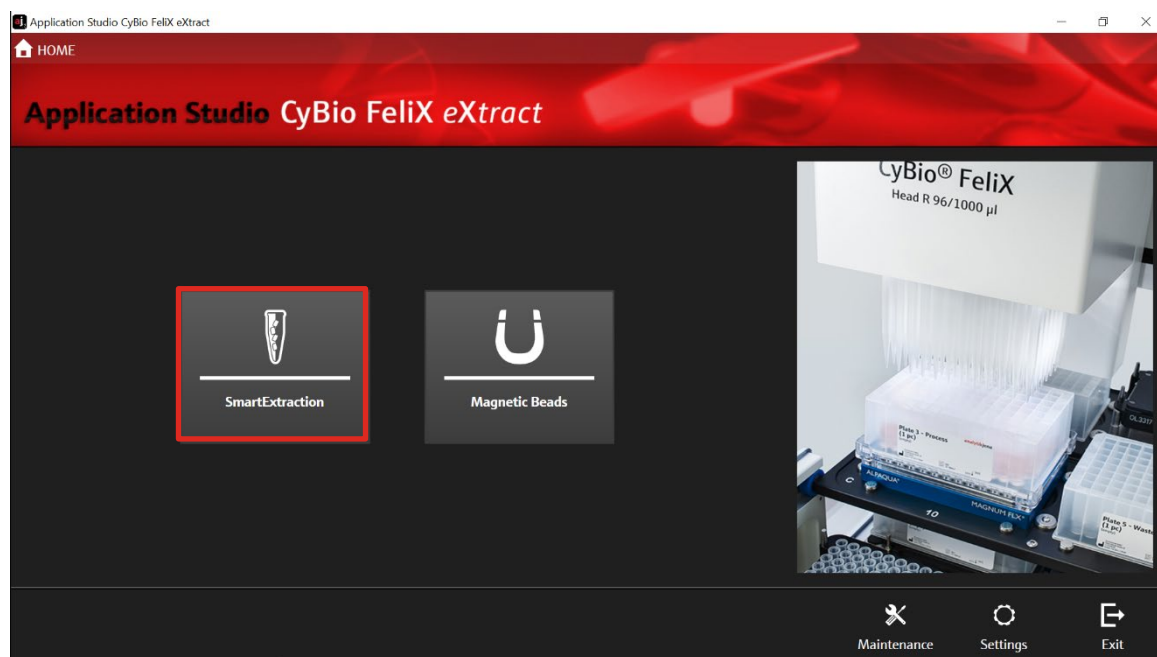

Figure 31: Homescreen of the AppStudio FeliX *eXtract*. Selection of extraction technology: SmartExtraction.
3. Select the extraction technology “SmartExtraction” (→ see **Figure 31**).